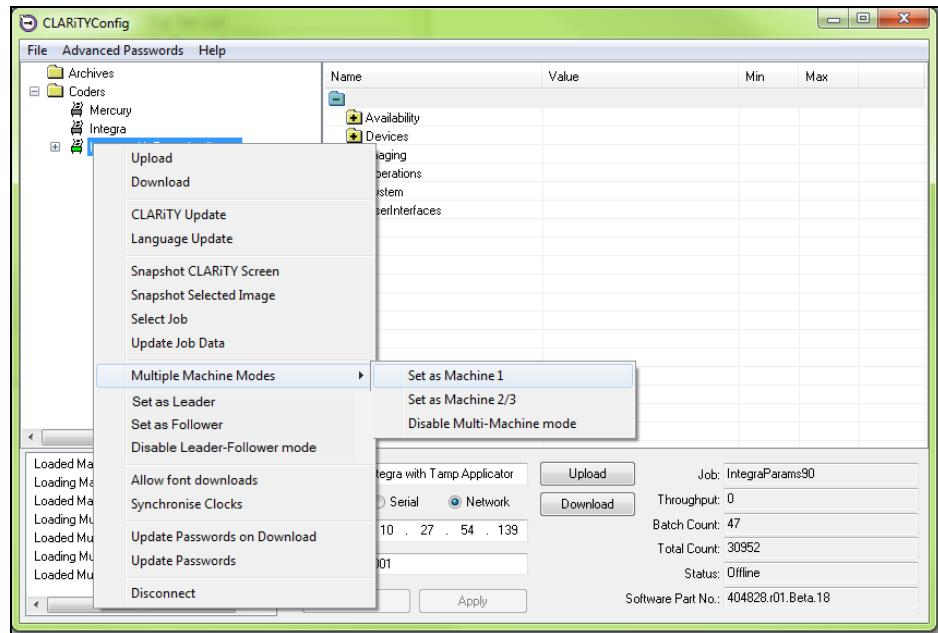

Figure 8-17: Set as Machine 1
- 2 Right click on the 'New Printer' icon when the icon turns 'green' and Select 'Multiple Machine Modes > Set as Machine 1' from the list as shown in Figure 8-17.